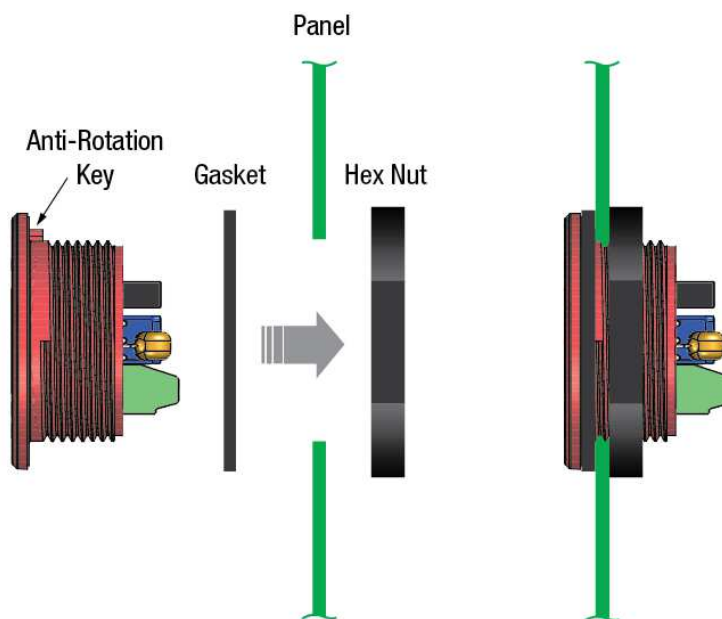

Figure 2. Panel Installation
4. Panel Installation: Other than the factory-supply thermistor probe connected to TB2, all electrical connections to DMR20-1-TMP must be made after the unit is securely attached to the panel, and with its DC supply input de-energized (off). In high-vibration environments, adequate strain reliefs must be used on all wiring connected to TB1 and TB2. See Figure 2 for typical panel mounting details.